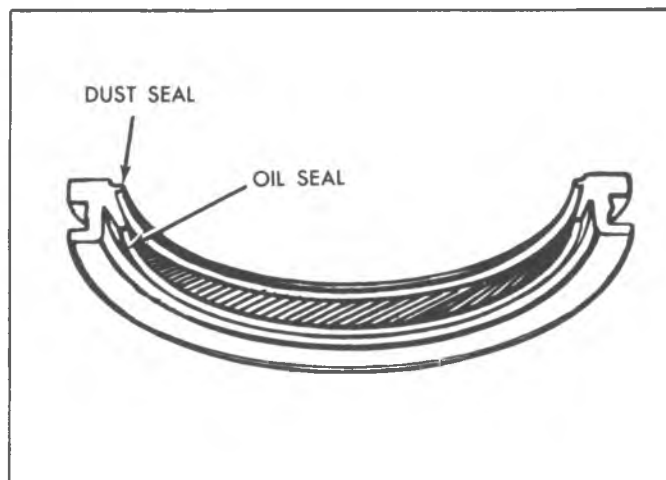

Fig. 13L—Crankshaft Oil Seal (Rear Main)
**NOTE:** Make sure that oil-seal lip is positioned toward front of engine (fig. 13L).